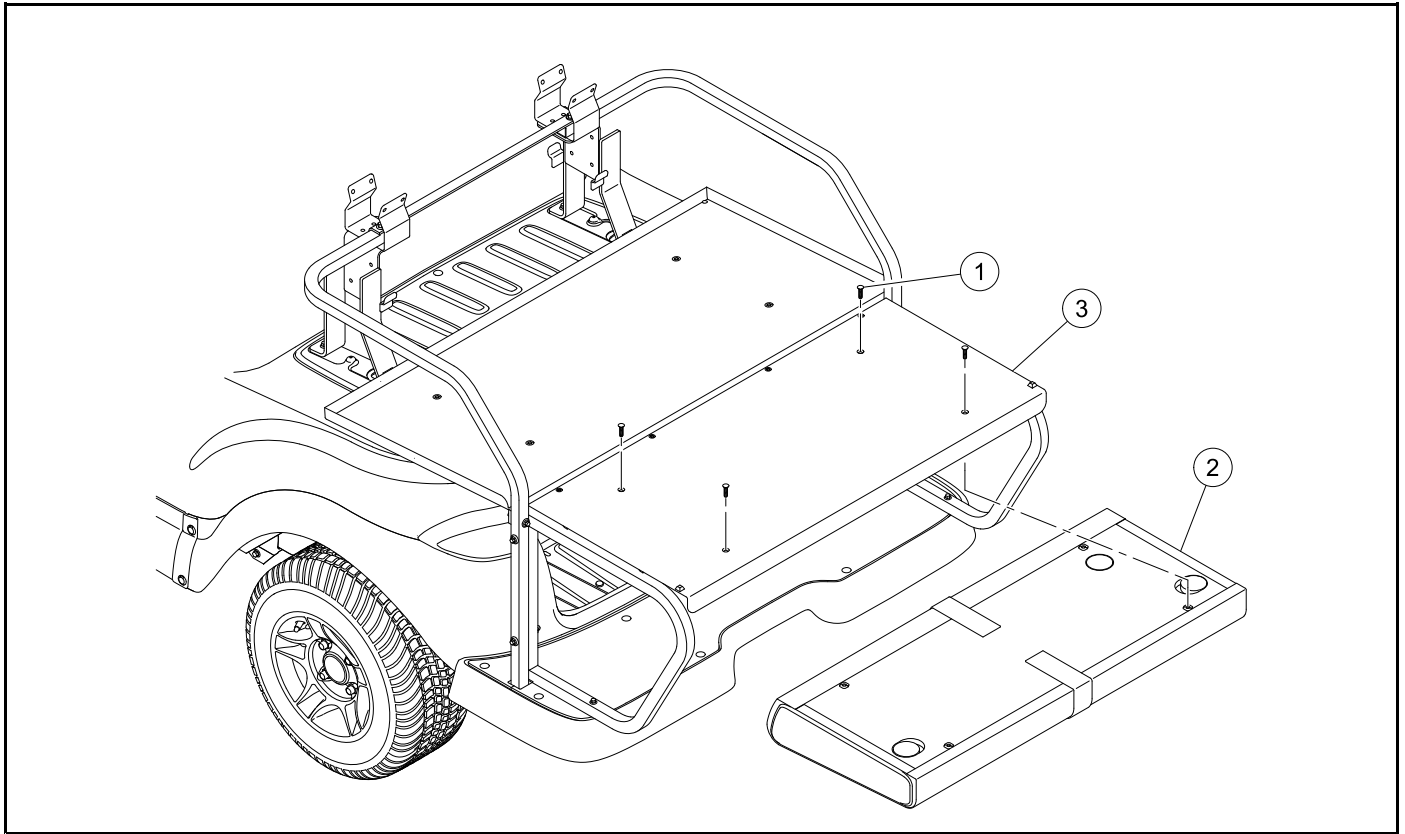

Figure 4-47 Fold-Down Rear Seat Bottom
1. Remove the screws (1) (**Figure 4-47**).
2. Remove the rear seat bottom (2) from the fold-down hinge (3).
1. Put the rear seat bottom (2) onto the fold-down hinge (3) (**Figure 4-47**).
2. Install the screws (1). Tighten the screws to 6.6 lb·ft (9 N·m).